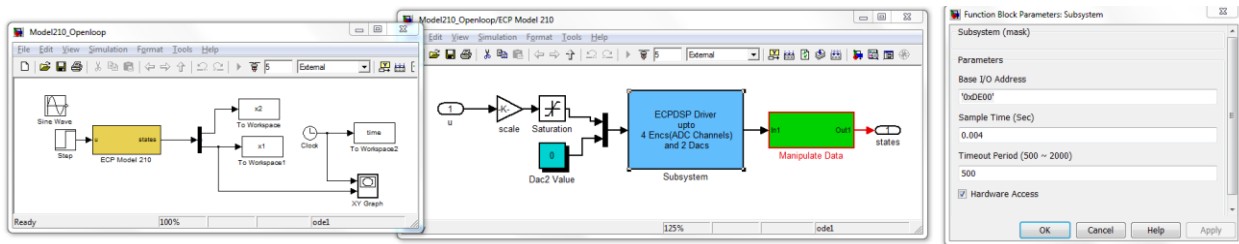

Figure 4: Adjusting the sample time in the ECP Model 210 DAQ block
7. Use Excel to create a data table and record the input frequency (f), input amplitude (A), and the output amplitude (B) when the system is in steady state.
9. Repeat steps 1 through 8 for $f = 1, 1.5, 2, 2.5, 3 \dots 7.5$ Hz. Note that as the frequency gets larger, MATLAB may crash because of the data acquisition and you need to adjust the input sinusoid amplitude or slightly increase sample steps in the ECP Model 210 DAQ block to minimize this (see Figure 4). You should reset the system by connecting and running **ESCPDSPReset.mdl** to zero the initial conditions after each change in frequency and/or amplitude. You should only have to compile **ESCPDSPReset.mdl** the first time you use it.